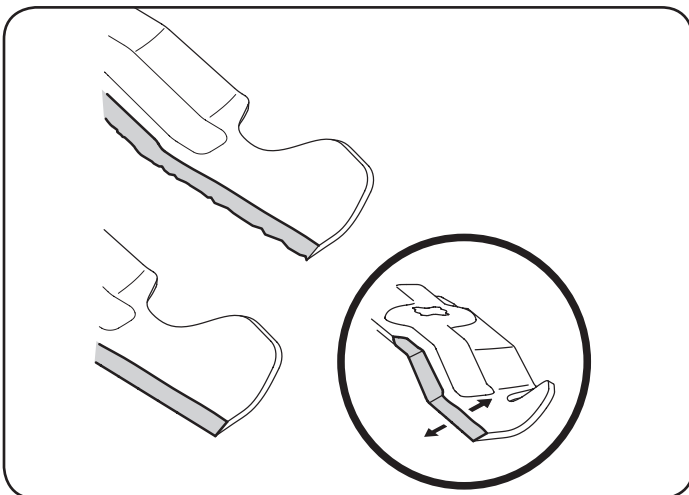

Figure 45
4. To properly sharpen the cutting blades, remove equal amounts of metal from both ends of the blades along the cutting edges, parallel to the trailing edge, at a 25°- to 30° angle. Always grind each cutting blade edge equally to maintain proper blade balance. See Figure 45.